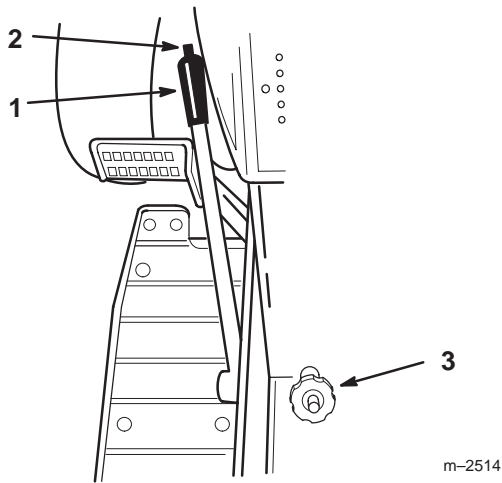

Figure 20
The attachment lift lever (Fig. 20) is used to raise and lower various attachments.
The Dial-A-Height control (Figs. 20) is used to limit the downward travel of the attachment, on gear drive tractors only. The Dial-A-Height knob is rotated to change the location of this stop, up or down.
1. Raise the attachment lift lever: Refer to Raising Attachments. In the raised position the Dial-A-Height knob (Fig. 20) can be rotated to change the stop location. Turn clockwise to raise and counterclockwise to lower the height of the attachment.
2. The Dial-A-Height indicator (Fig. 20) will show the change, high to low, in attachment lift height as adjustment is made.